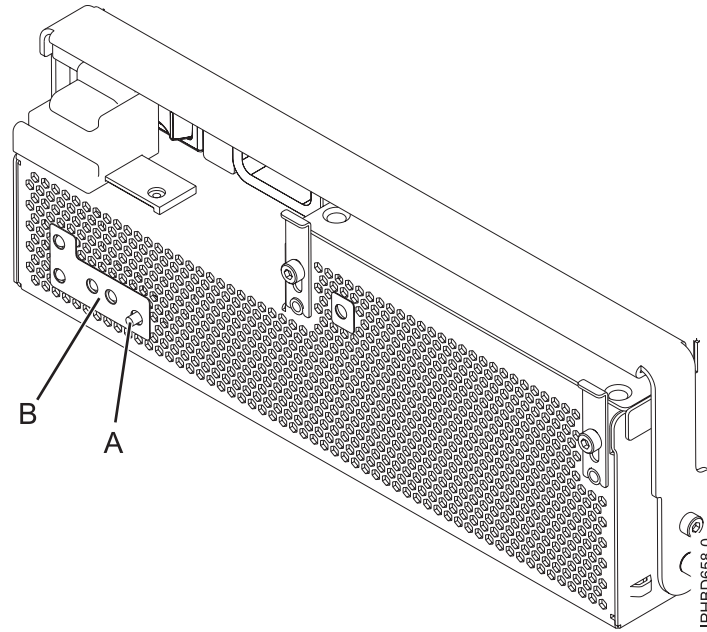
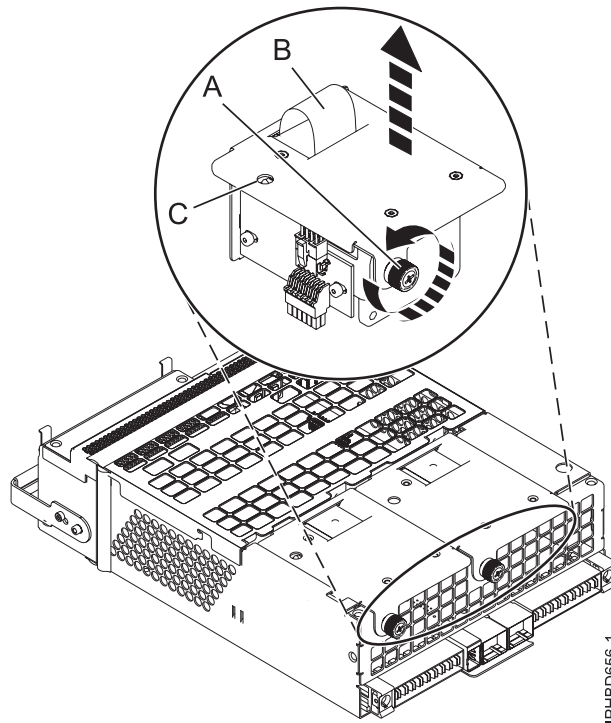

Figure 15. Fan fault LED and fan identify button
Figure 16. Removing a fan
Note: If a fan fails, the amber fan fault LED (B) on the front of the offline converter assembly (OCA), as shown in Figure 15 on page 16, is on solid.
- a. To identify the failing fan. Press the fan identify button (A), as shown in Figure 15. An amber left or right fan-fault LED (C) on solid, as shown in Figure 16, indicates the faulty fan.
- b. Loosen the thumbscrew (A) that holds the fan in the power-supply assembly, as shown in Figure 16.
- c. Use the recessed fan handle **(B)** to lift the fan from the power-supply assembly, as shown in Figure 16 on page 16.